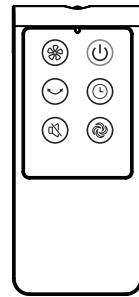

Fig.10
I. Remote Controller (Fig.10)
- (1) Slide the battery compartment Cover.
- (2) Insert the batteries, and make sure that the batteries are placed as shown in the Fig.10.
- (3) Slide back the battery cover.